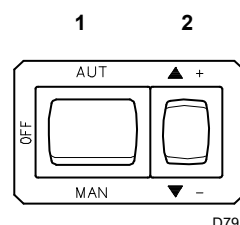
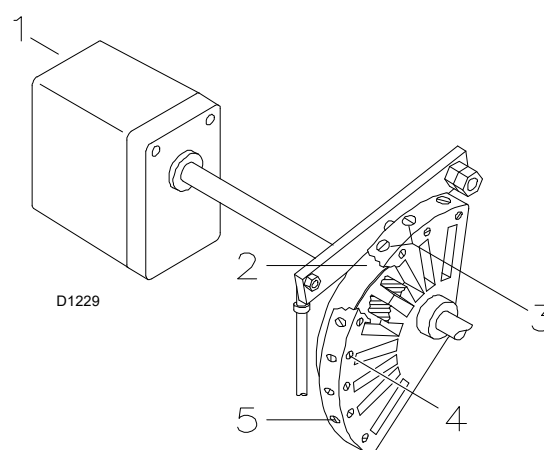
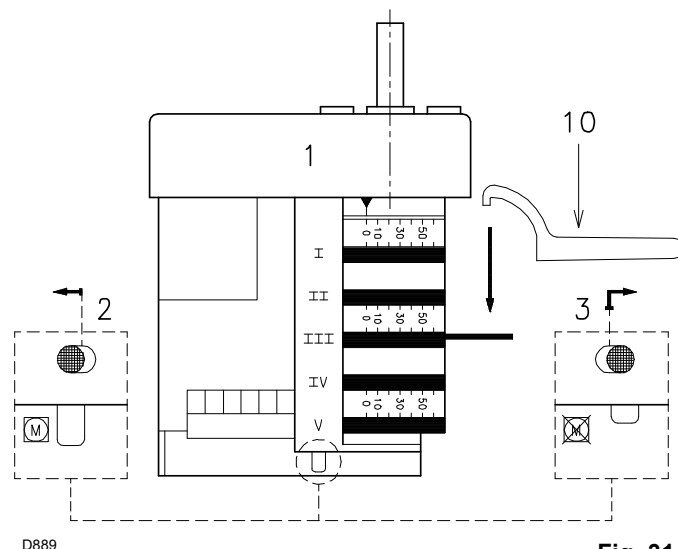

Fig. 27
Fig. 30
Fig. 31
Close load controls and set switch 1)(Fig. 27) to "MAN".
Set switch 1)(Fig. 27) to "ON".
In the above instructions we left the burner running in MIN output operation. Now press button 2)(Fig. 27) "+" until servomotor arrives at 130°.
Progressively adjust the end profile of cam 2)(Fig. 30) using adjustment screws 5).
Press button 2)(Fig. 27 on page 24) "output reduction" and keep it pressed until the servomotor has reached 20° (factory setting).
Progressively adjust the starting profile of cam 2)(Fig. 30) by turning the screws 3).
Press the switch 2)(Fig. 27 on page 24) "output increase" a little so that the servomotor turns by about 15°. Adjust the screws until optimal combustion is obtained. Proceed in the same way with the other screws.
Switch the burner off with switch 1)(Fig. 27 on page 24), at the OFF position, disengage the cam 2)(Fig. 30) from the servomotor, by pressing the button 3)(Fig. 31) and moving it to the right, and check more than once that the movement is soft and smooth, and does not grip, by rotating the cam 2) forward and backward by hand.
Engage cam 2) to the servomotor again by moving button 2)(Fig. 31) to the left.
Finally fix the adjustment by turning screws 4)(Fig. 30).
In order to adjust cam III, especially for fine movements, key 10)(Fig. 31), held by a magnet under the servomotor, can be used.
- 6 s :** Servomotor starts: 130° rotation to right, until contact is made on cam I)(Fig. 31 on page 26).The air gate valve is positioned on MAX. output.
- 85 s :** Servomotor rotates to left until contact is made on cam III) (Fig. 31 on page 26).
- The burner locks out when demand for heat is less than the heat supplied by the burner in the MIN output (section F-G). Load control TL opens. The servomotor returns to the 0° angle limited by contact with cam II)(Fig. 31 on page 26). The gate valve closes completely to reduce thermal dispersion to a minimum.
Disengage the cam 2)(Fig. 31 on page 26) from the servomotor, by pressing and moving button 3)(Fig. 31 on page 26) towards the right, and turn it backwards and forwards by hand to make sure it moves freely. Now engage the cam again by moving the button 2)(Fig. 31 on page 26) to the left.